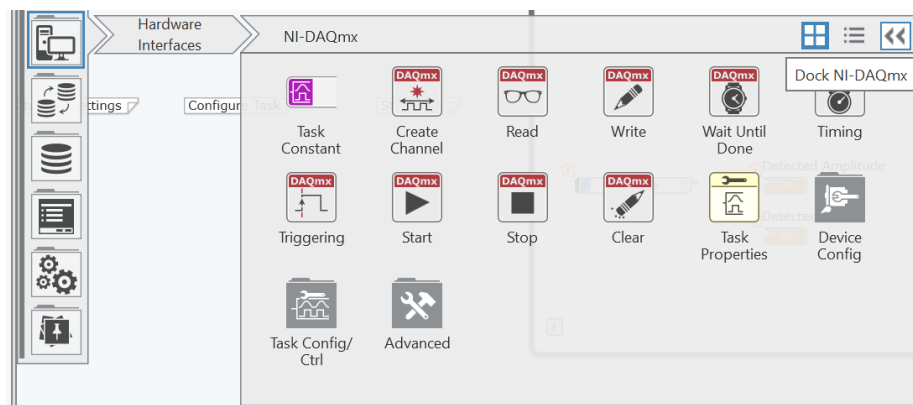

Figure 7-12 The DAQmx palette includes all the required VIs for communicating with your NI CompactDAQ chassis.
30. Click on the **double arrow** (⇐) to keep this palette visible (arrow in Figure 7-12).